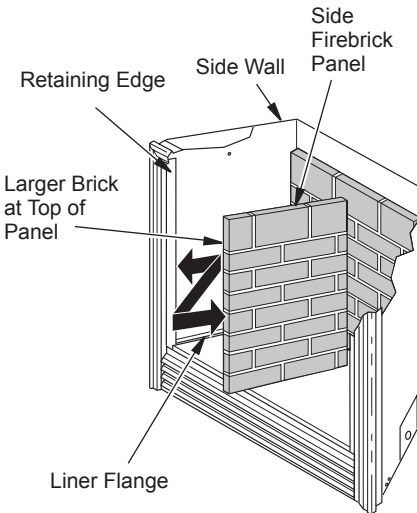

Figure 4 - Placing Side Firebrick Panel Behind Retaining Edge
- With larger bricks at the top, slide one side firebrick panel behind the retaining edge of fireplace. Gently press the firebrick panel back against the side wall (see Figure 4, page 3). The bottom edge of the firebrick panel will rest on liner flange and against back panel.